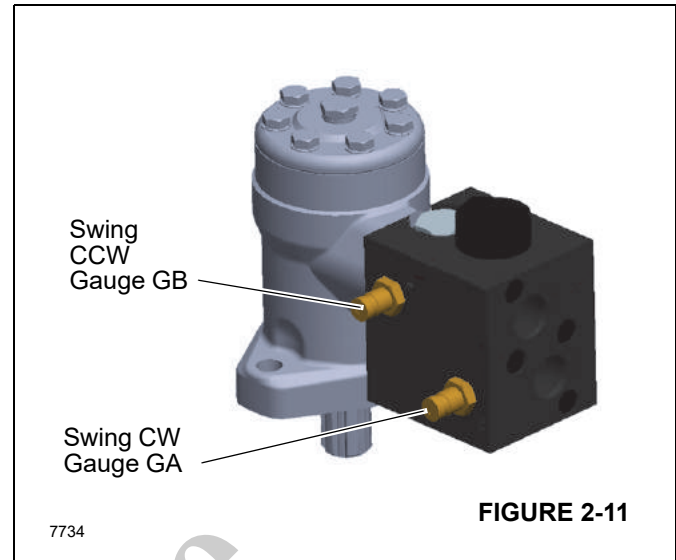

FIGURE 2-11
- a. Install a 345 bar (5000 psi) minimum gauge in the GA or GB gauge port on the hydraulic motor manifold Figure 2-11.